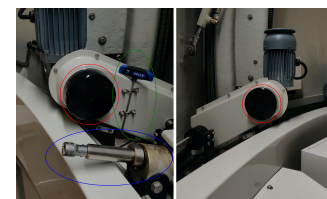

Fig. 3: Shutter mechanism - red: slipping clutches, green: Allen wrench, blue: socket for the
- **Remove the black protective cover** above the slipping clutches (red circles in Fig. 3) of the shutter drives
- **Take the Allen wrench** (green ellipse in Fig. 3) from its holder directly next to the left-hand slipping clutch
- **Insert the emergency crank** (Fig. 5, located on the left side of the dome slit) **into the socket** to the right of it (blue ellipse in Fig. 3).